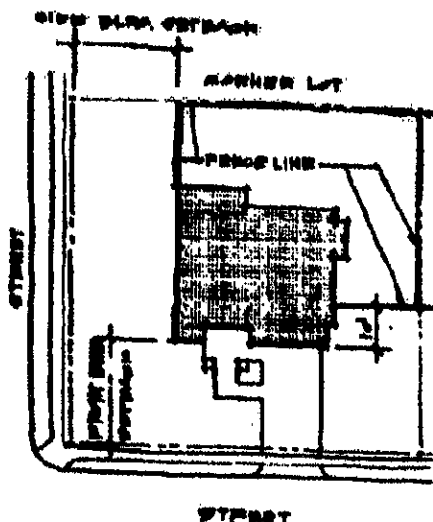

Figure III-1
- On corner lots, the fence must begin on the rear edge of the house or building line for the side of the home that is closest to the corner or on the building line (Fig. III-1).